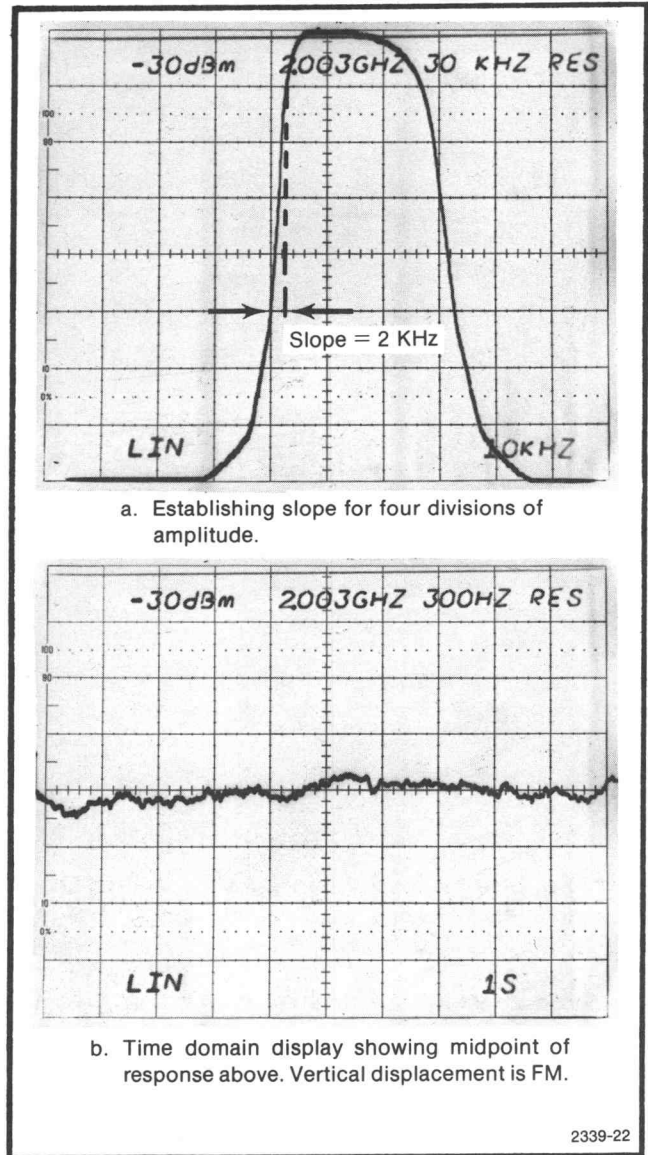

Fig. 4-8. Measuring Incidental FM.
b. With the calibrator signal tuned to center screen, decrease SPAN/DIV to 10 kHz and then position the signal with the FINE tune control, so the slope (horizontal span versus vertical excursion) or the filter response can be measured over four divisions of amplitude (see Fig. 4-8).
d. Switch PHASE LOCK to "OFF", decrease SPAN/DIV to 0 Hz, in steps, keeping the signal centered with the tuning control. At 0 Hz span, carefully tune so the display is near mid screen (see Fig. 4-8). Set TIME/DIV to 0.5 s.